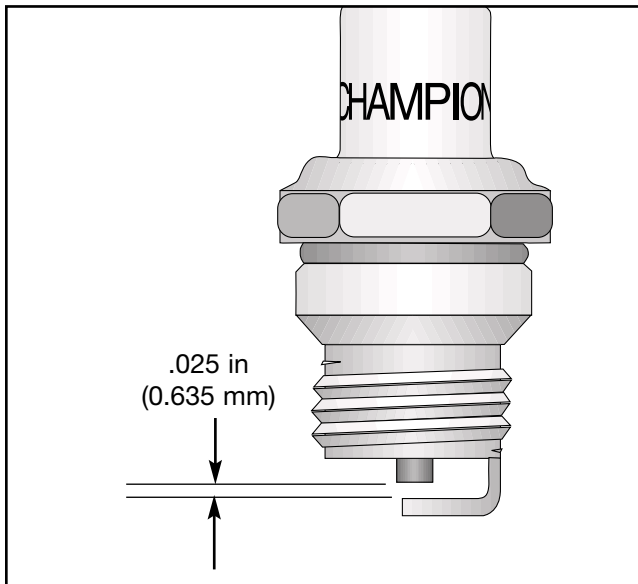

Fig. 47
3. Set the air gap at **.025 in (0.635 mm)** using a *wire feeler gauge* (Fig. 47). Install a correctly gapped spark plug into the cylinder head. Torque to **100-110 in•lb (11.3-12.3 N•m)**.